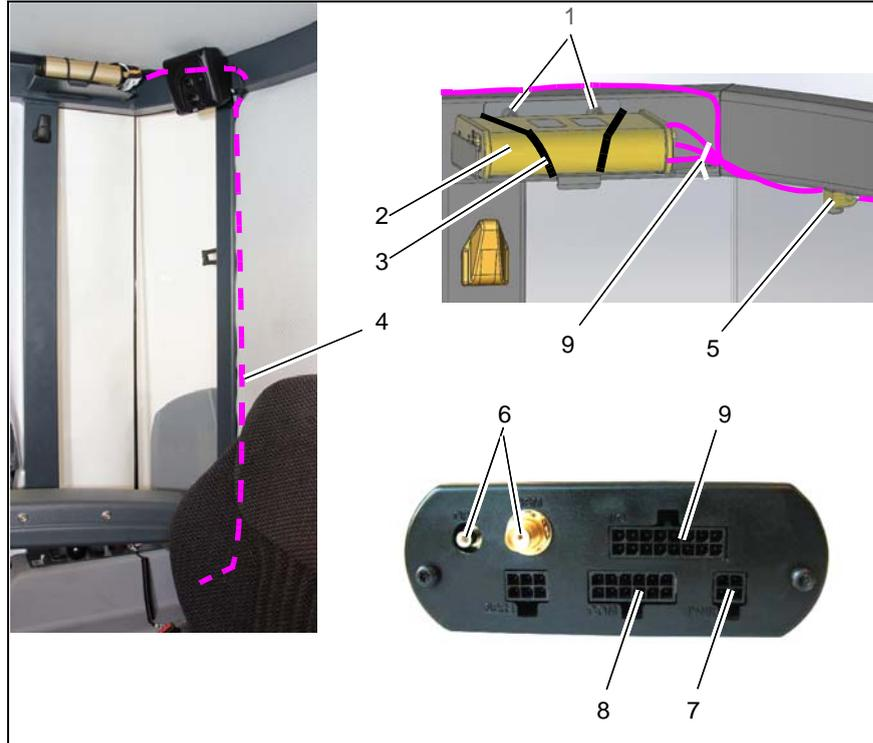

Fig. 4
2. Attach the holder for the Fleet-Recorder to the frame of the cab using the flanged button head bolts (Fig. 4/1).
3. Attach the Fleet-Recorder (Fig. 4/2) to the holder using an O-ring (Fig. 4/3).
Guide the W77 cable loom behind the loudspeaker (Fig. 4/4).
Use the clamp to fix the W77 cable loom into position (Fig. 4/5).
- Connect the antenna cable to the GPS and the GSM connections of the Fleet-Recorder (Fig. 4/6) according to the labelling.
- Insert the 4-pole plug A20/X1 of the W77 cable loom (Fig. 4/7).
- Insert the 12-pole plug A20/X2 of the W77 cable loom (Fig. 4/8).
- Insert the 16-pole plug A20/X3 of the W77 cable loom (Fig. 4/9).
4. Attach the cable to the holder using cable ties (Fig. 4/9).